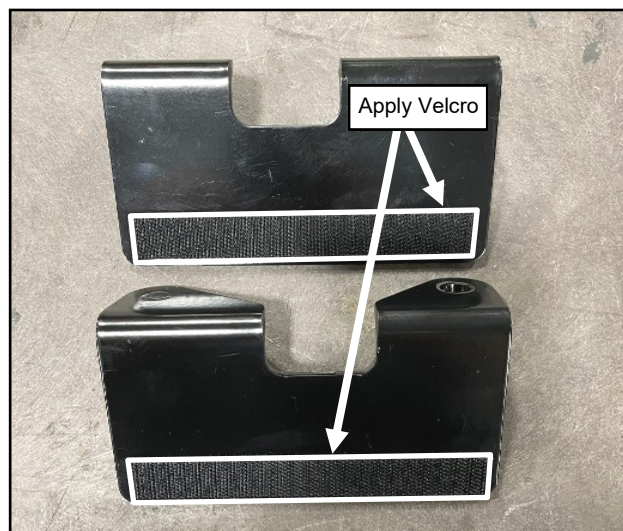

Fig. 1.21 (Install Velcro to Arm Restrictors)
- 1.21 Apply 5/8" wide P.S.A. Velcro to the bottom edge of Arm Restrictors. See Fig. 1.21.